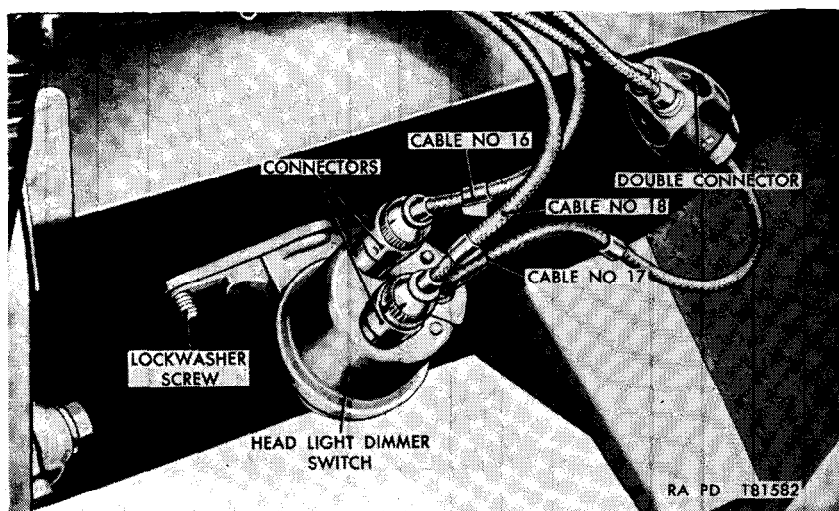

Figure 86. Headlight dimmer switch—installed.
## 183. Headlight Dimmer Switch (fig. 86)
*a. Removal.* Disconnect the connectors in the two cables No. 25 (fig. 86). Remove the two cap screws and lockwashers securing the horn to the horn bracket and remove horn.